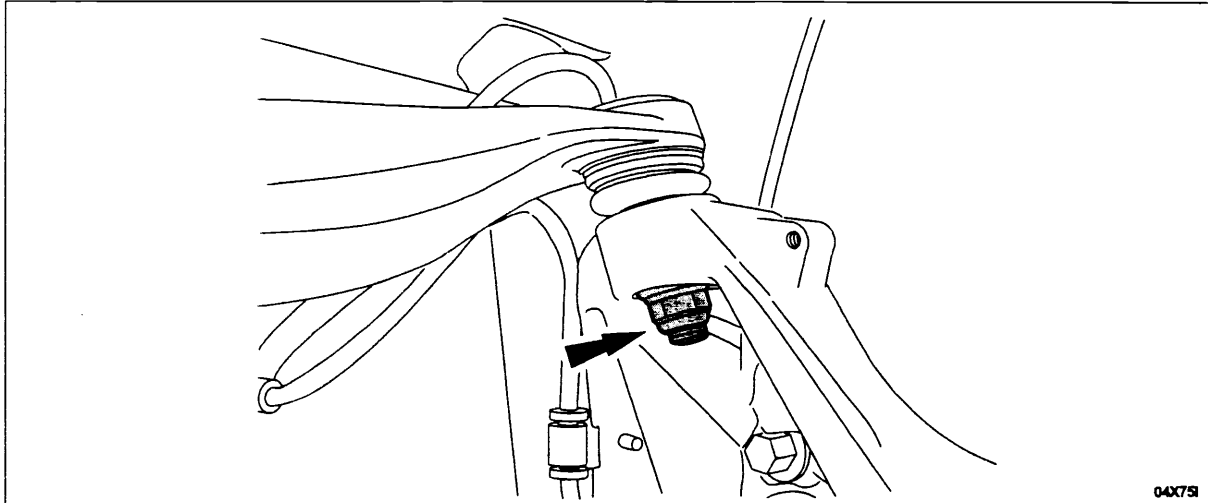

FIGURE 9
1. Loosen the upper control arm-to-knuckle ball stud nut. See Figure 9.